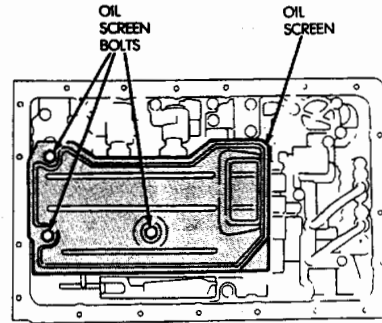

Fig. 7 Removing Oil Screen
(12) Remove transmission oil pan, oil screen and screen gaskets (Fig. 7). Then mount transmission in holding fixture.